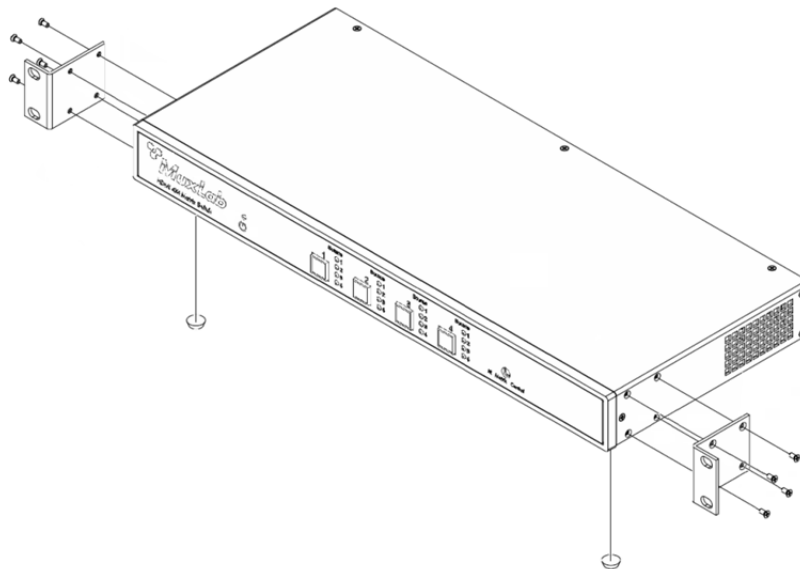

Figure 5: Setup for Set-top Installation
For set-top installation, the side mounting brackets may be removed, and the included rubber feet placed on the bottom of the unit. When removing the mounting brackets, be careful to keep and reinstall the four screws on each side of the unit (Figure 5).
- Connect IR sensors and emitters as needed. For more information, refer to Figures 5 and 6. NOTE: IR Sensor cables are equipped with a 3.5 mm stereo jack, and IR Emitter cables are equipped with a 3.5 mm mono jack.